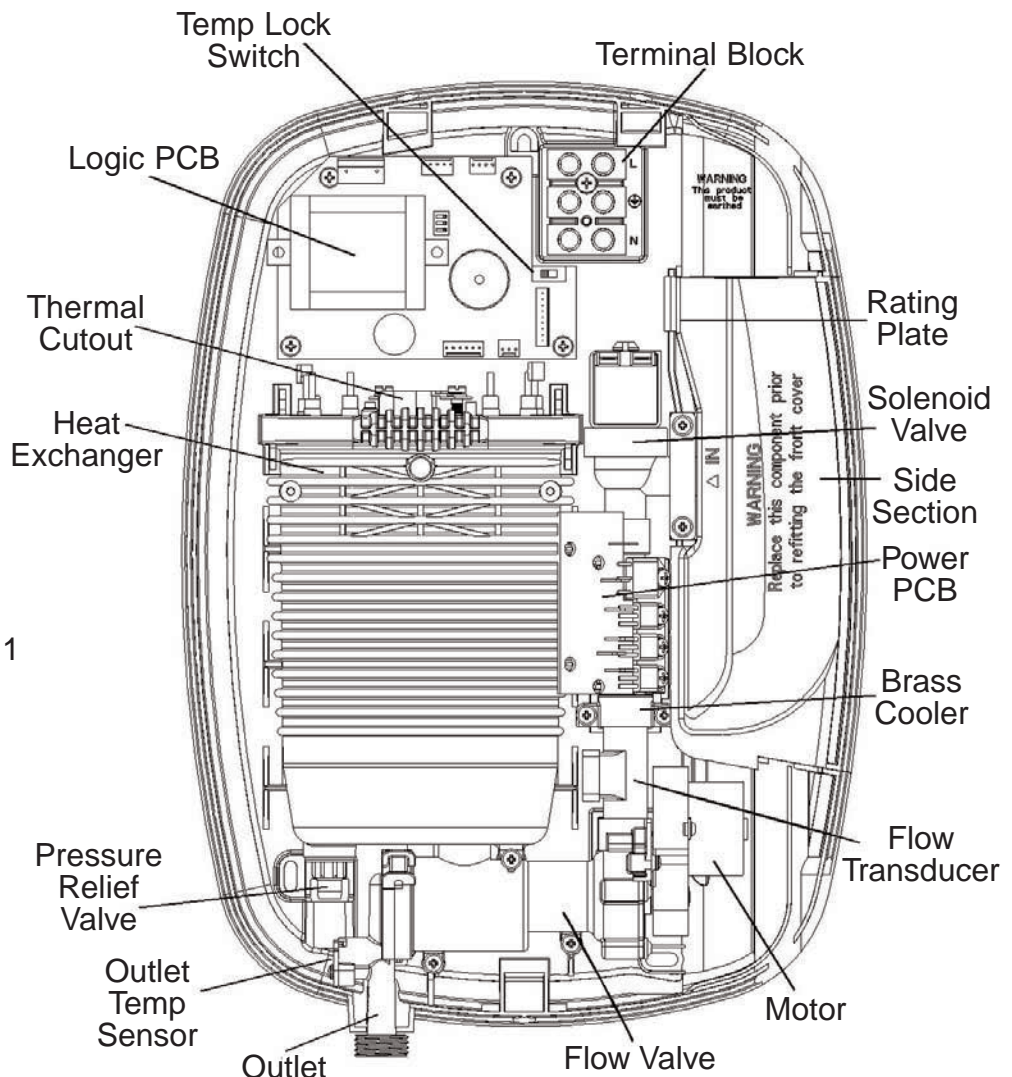

Fig. 11
**Warning!! Do Not Fit A Tap On The Shower Outlet. Take Care To Avoid Restricting The Outlet Of The Pressure Relief Device. (see fig. 11 for location)**